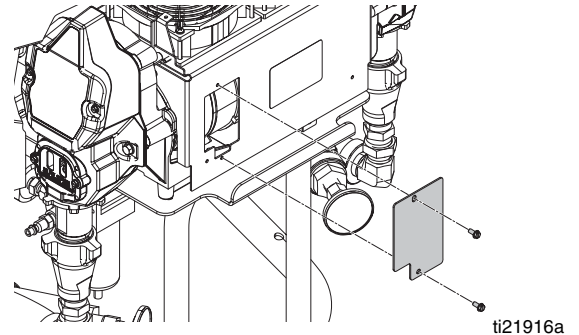

FIG. 19: Motor Brushes
6. Remove the display control cover (26). Disconnect motor cables as follows:
- a. Remove the two bolts and access cover plate. See FIG. 19.